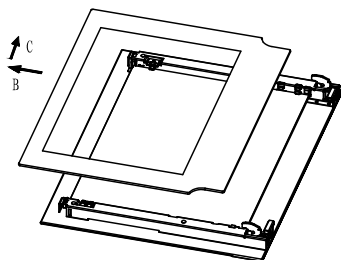

Fig.2
- Now, shutting the door slightly, you can lift it out by pulling out the hooks "A" as shown in figure 2.
2. Take out inner glass slowly (Fig.2)